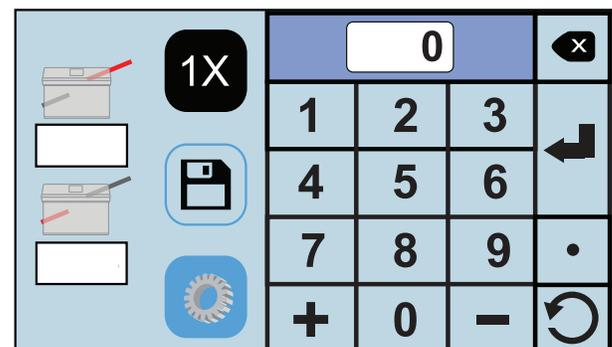

Fig. 56a
2. Select the upper fold plate icon “” to adjust the fold stop position for the first fold (the icon will turn a dark gray when selected). Using the touch pad, key in the number or use the “=” and “-” keys to make the adjustment for the first fold stop position (Fig. 56a). Press the enter key “” to enter the measurement. The white box under the icon will show the measurement entered.